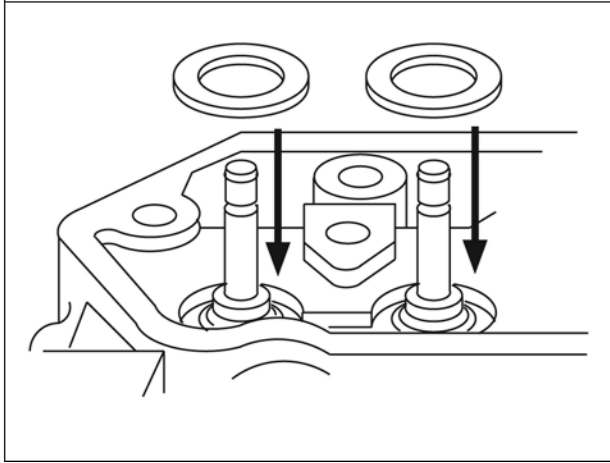

Figure 27
2. Install valve spring seats (Figure 27).